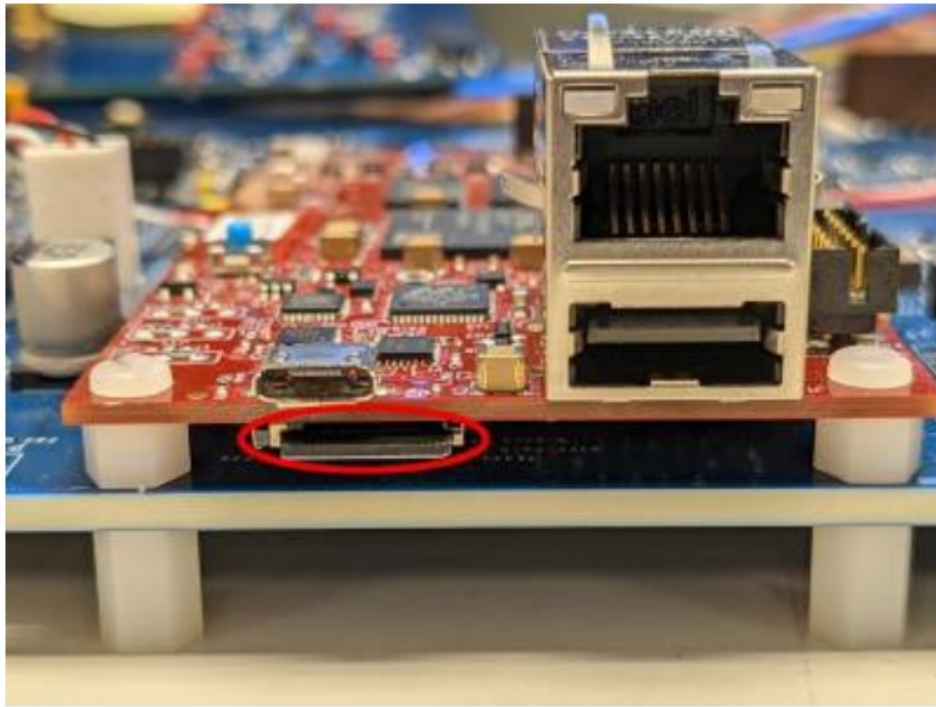

Figure 2. MicroSD Card Slot in MicroZed Board
2. In the left pane, click Plug-in Manager. The Manage Plug-ins window opens, as shown in Figure 2.